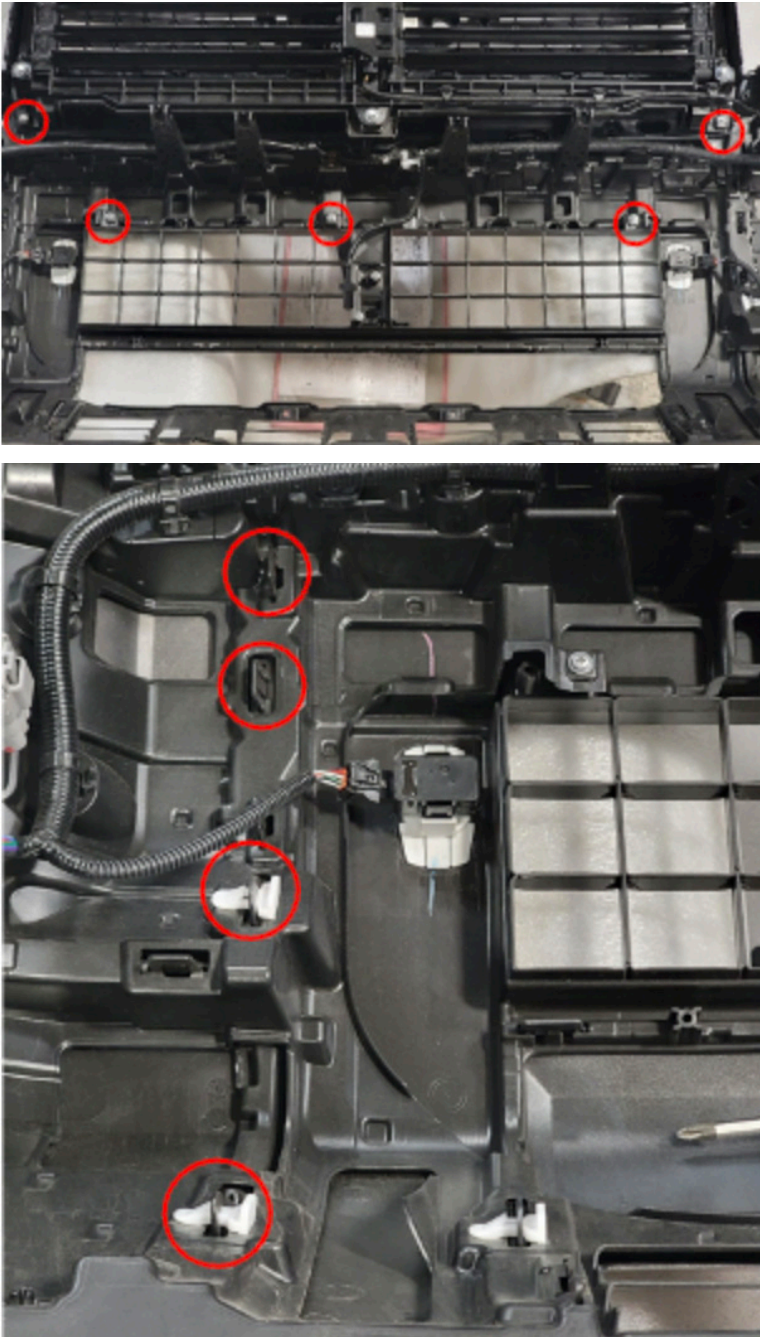

Figure 19-20
16. Remove the center mesh fascia from the bumper by removing the 5x Philips head screws above the mesh and corners, the 4x white retaining clips, and surrounding body clips. Figure 19-20.